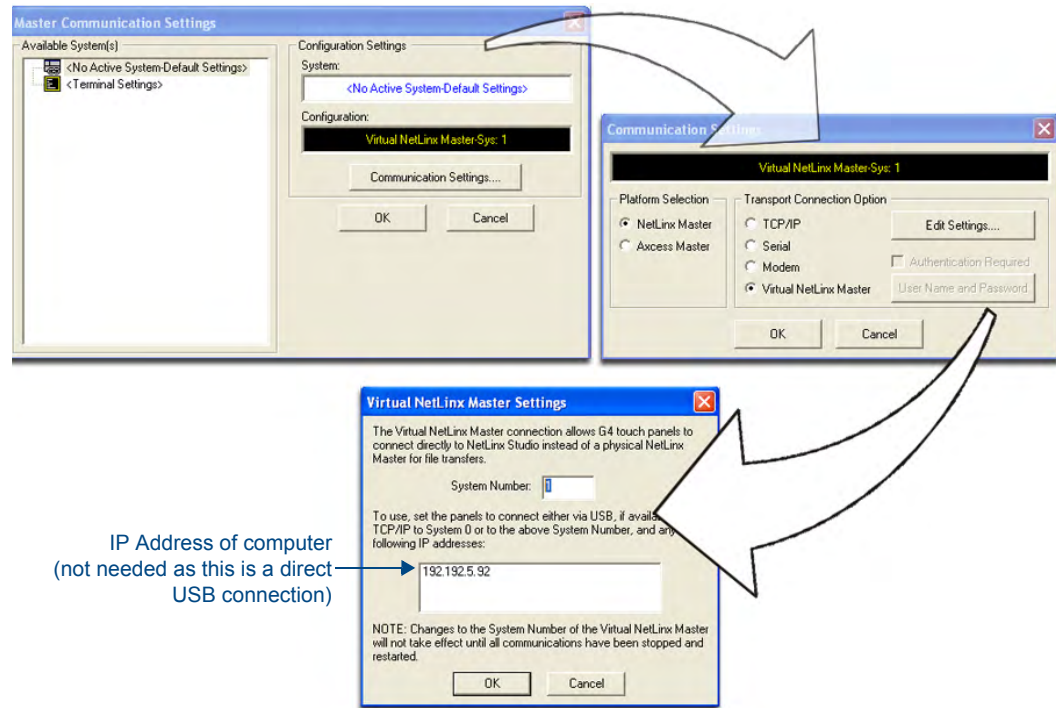

FIG. 36 Assigning Communication Settings for a Virtual Master
3. Select **Settings > Master Communication Settings**, from the Main menu to open the Master Communication Settings dialog (FIG. 36).
7. Click the **Edit Settings** button (on the Communications Settings dialog) to open the *Virtual NetLinX Master Settings* dialog (FIG. 36).